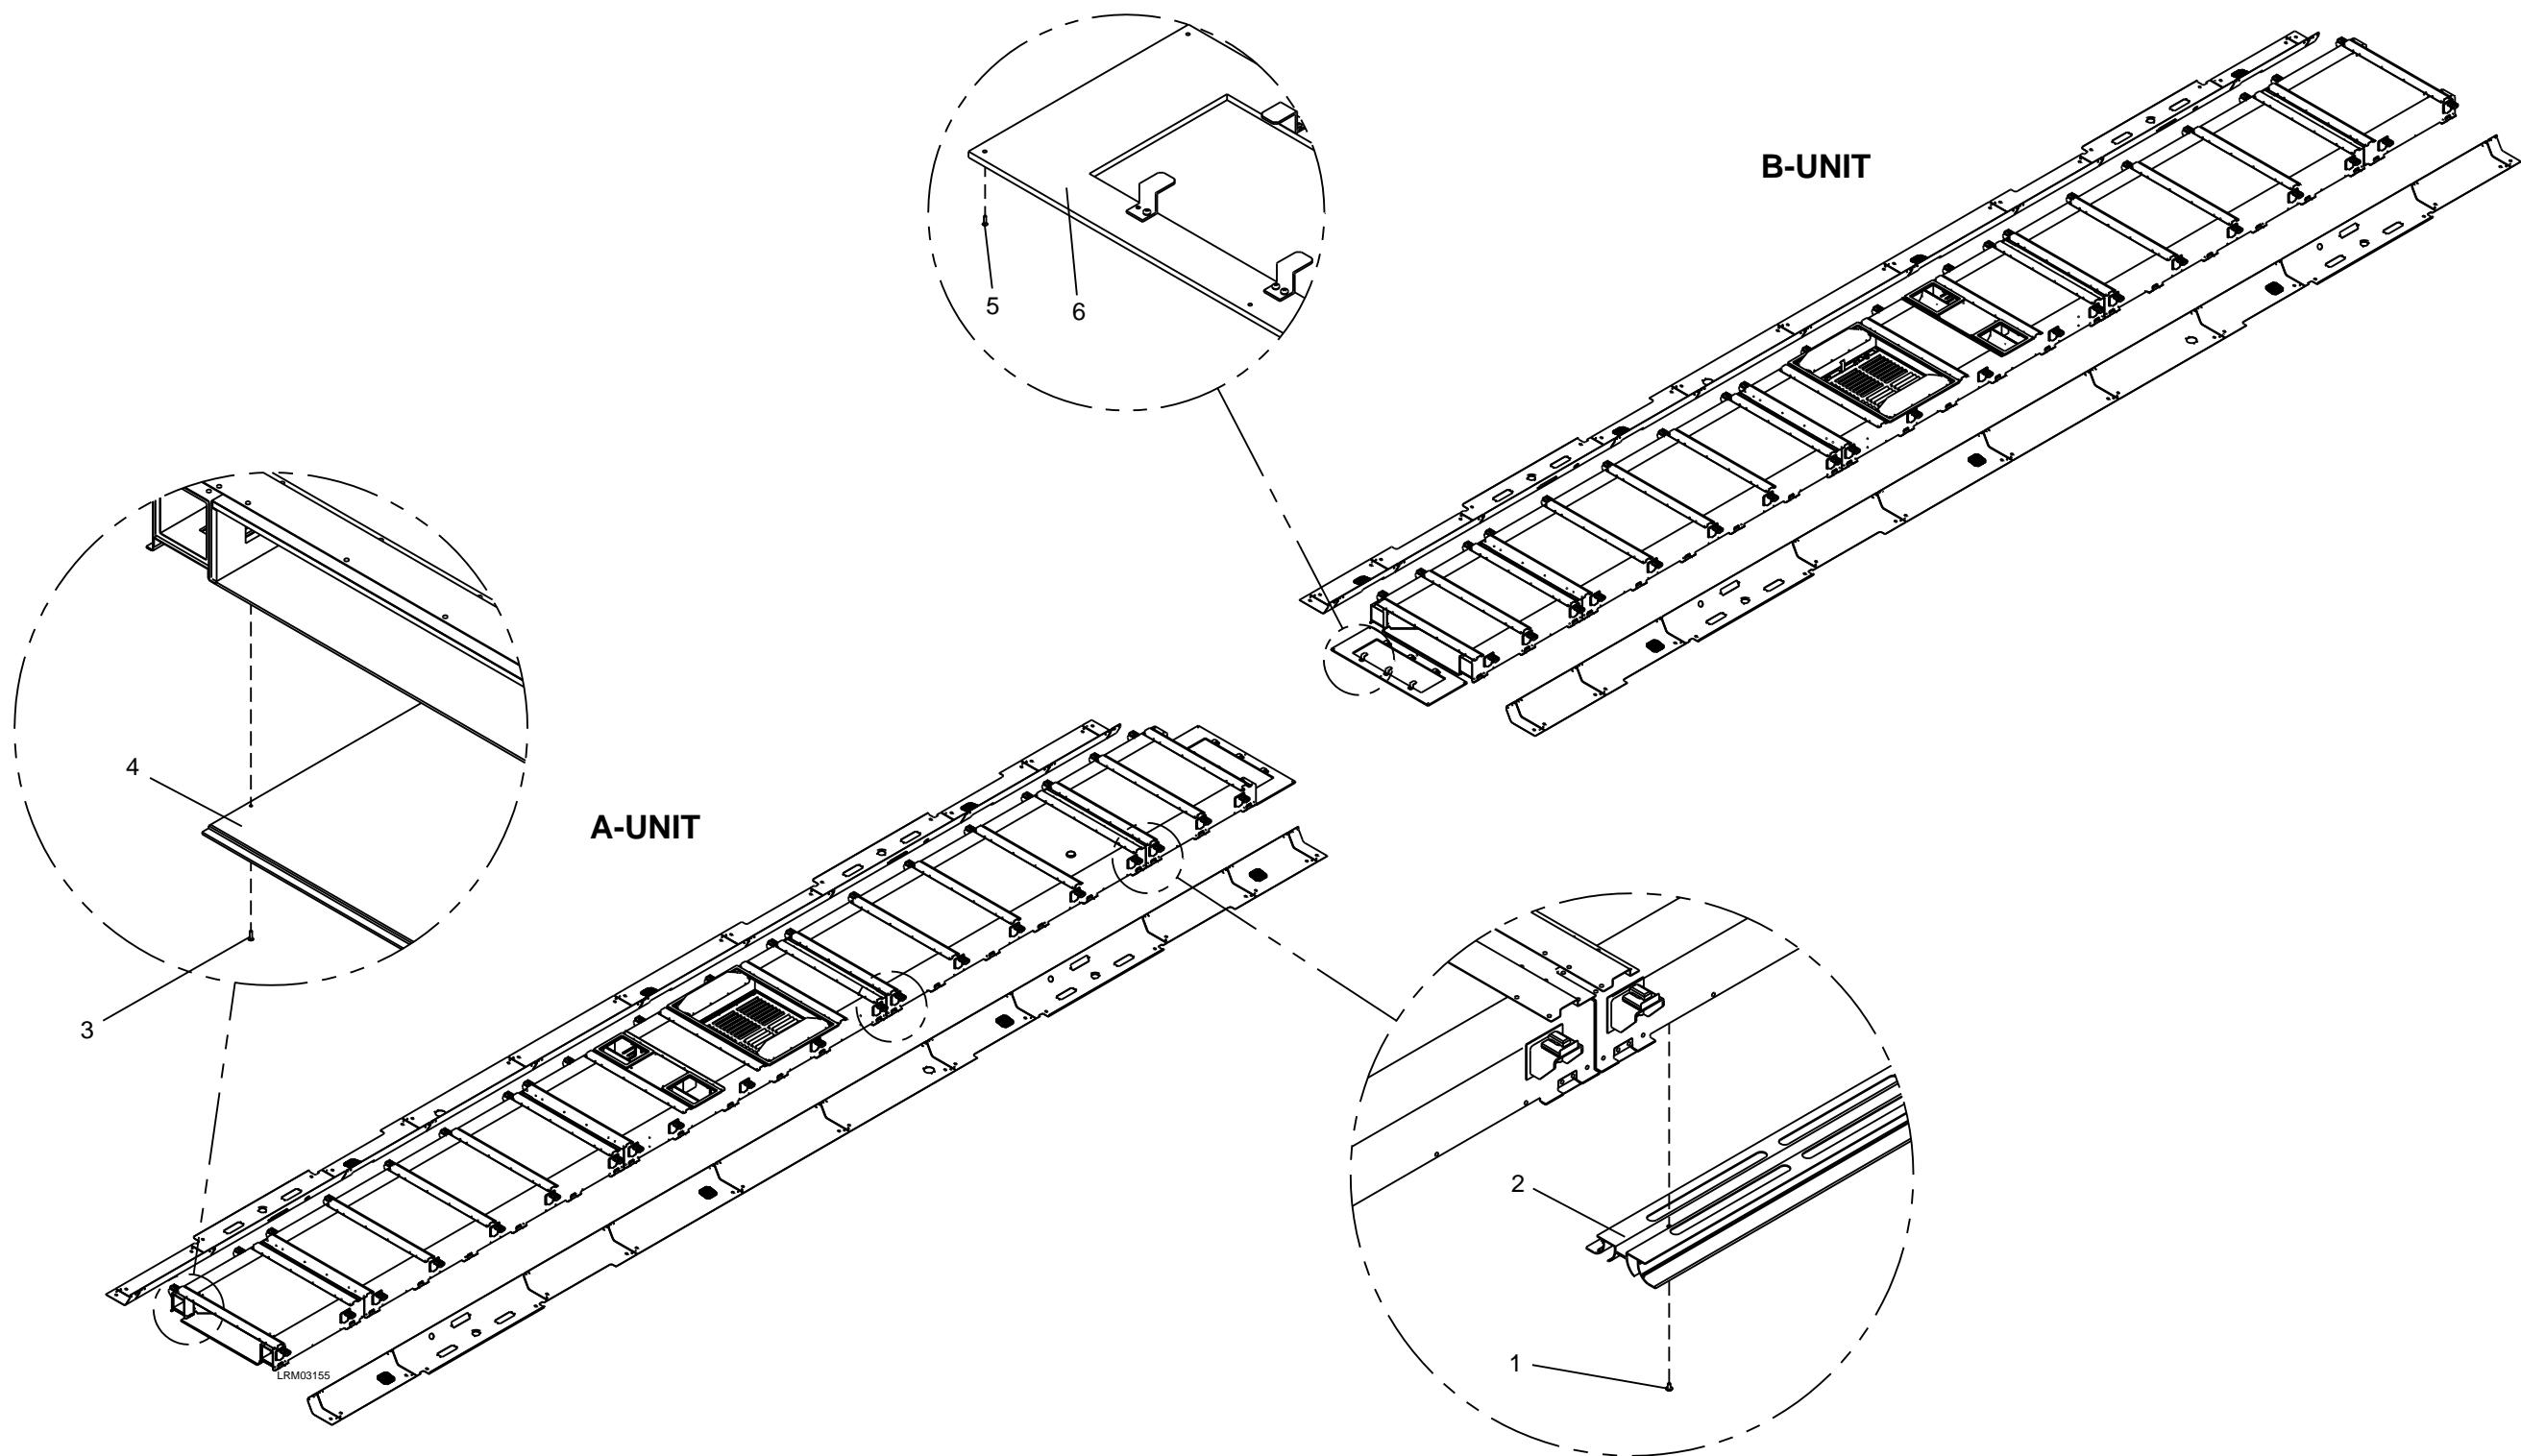

Figure 7-82: Center and End Ceiling Panels
1. Remove the three M4 x 10 screws (1) from the air diffuser (2). See Figure 7-82.
2. Remove the air diffuser (2).
3. Repeat steps 1 and 2 for the remaining air diffusers (2).
4. Remove the four M4 x 16 screws (3) from the ceiling panel (4). The ceiling panels are ship-lapped; the ceiling panel (4) nearest the return air grille must be removed first before adjacent ceiling panels (4) are removed.
6. Remove the five M4 x 20 screws (5) from the End Ceiling Panel (6).
7. Remove the End Ceiling Panel (6).
8. Repeat steps 5 through 7 for the remaining End Ceiling Panel (6).